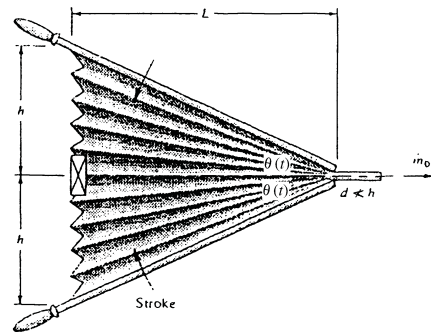

Fig. P3.31
**3.31** A bellows may be modeled as a deforming wedge-shaped volume as in Fig. P3.31. The check valve on the left (pleated) end is closed during the stroke. If  $b$  is the bellows width into the paper, derive an expression for outlet mass flow  $\dot{m}_o$  as a function of stroke  $\theta(t)$ .